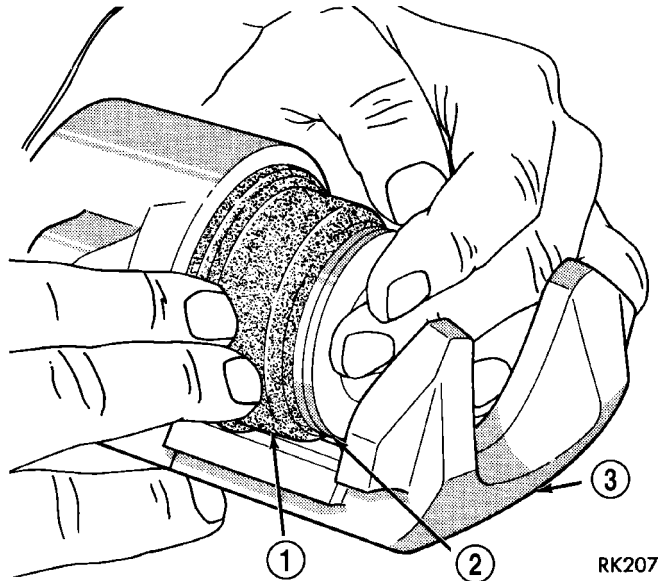

Fig. 38 Installing Piston Into Caliper Bore
(4) Install piston into caliper bore pushing it past the piston seal until it bottoms in the caliper bore (Fig. 38).